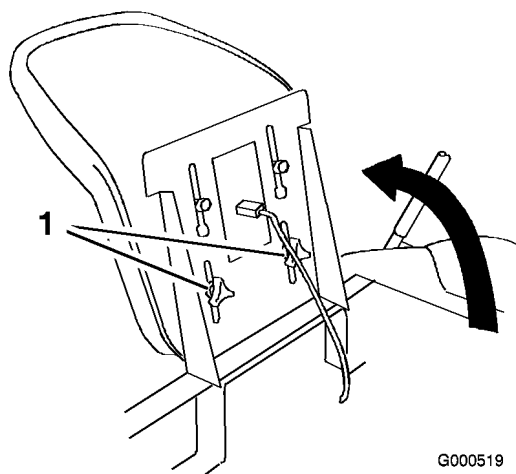

Figure 13
1. Raise the seat and loosen the adjustment knobs enough to move the seat (Figure 13).